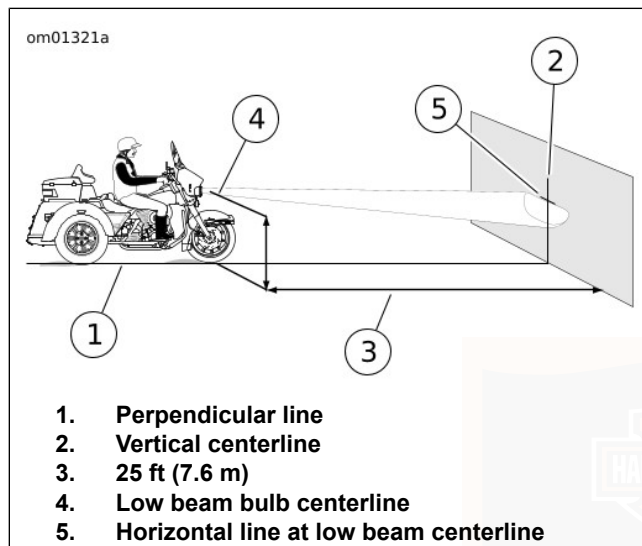
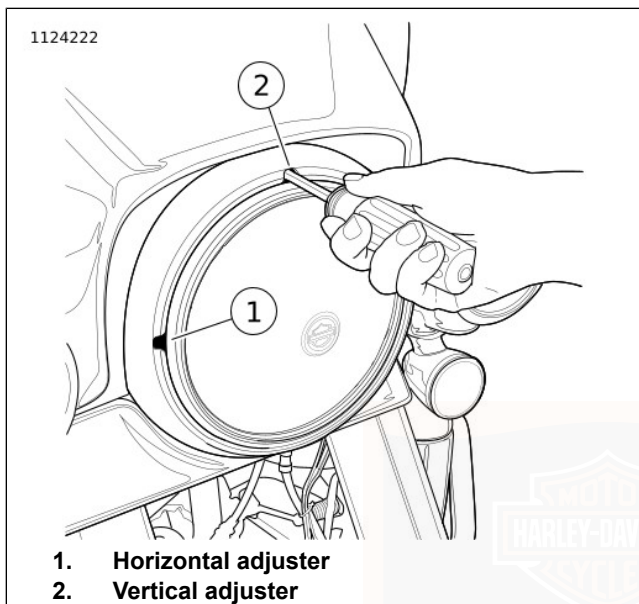

Figure 86. Headlamp Alignment: LED
Figure 87. Headlamp Adjusters: All except Frame-Mounted Fairing (typical)
See Figure 86. Park the motorcycle on a line (1) perpendicular to the wall.
8. See Figure 86. Draw a horizontal line (5) through the vertical line at measured height.
*See Figure 86. The headlamp is aligned when the top of light beam hot spot is located as shown with headlamp set to **low beam**.*
See Figure 86. Verify headlamp alignment.
2. See Figure 87. Insert a 5/32 ball end hex wrench through adjuster slots in trim ring.
- a. **Horizontal:** Turn the horizontal adjusting screw (1) to adjust light beam left and right.
- b. **Vertical:** Turn the vertical adjusting screw (2) to adjust light beam up and down.
3. See Figure 86. Adjust headlamp **low beam** as shown.